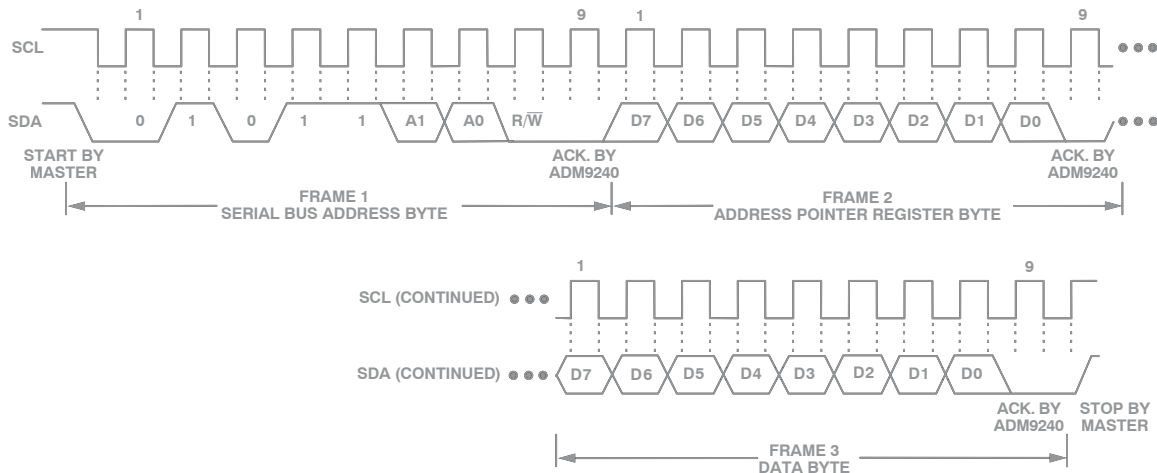

Figure 2a. Writing a Register Address to the Address Pointer Register, then Writing Data to the Selected Register
This is illustrated in Figure 2a. The device address is sent over the bus followed by R/W set to 0. This is followed by two data bytes. The first data byte is the address of the internal data register to be written to, which is stored in the Address Pointer Register. The second data byte is the data to be written to the internal data register.
2. In Figures 2a to 2c, the serial bus address is shown as the default value 01011 (A1)(A0), where A1 and A0 are hardwired to either Logic 0 or Logic 1.